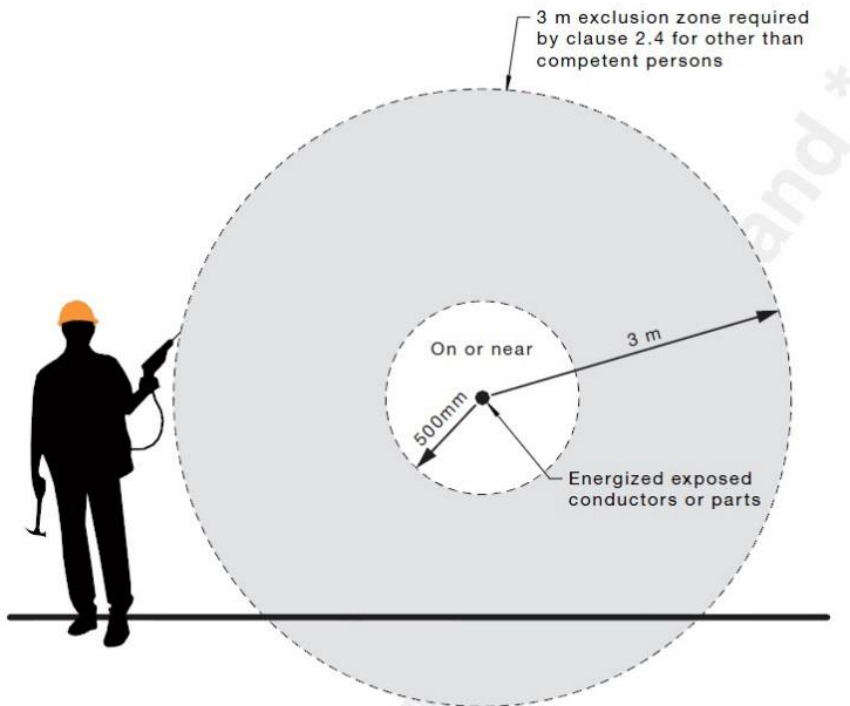

FIGURE 2.1 ILLUSTRATION OF 3 M EXCLUSION ZONE AND 'ON OR NEAR'
*See figure 2.1 below from AS/NZS4836:2011. *"On or near" is defined as within 500mm of the energized exposed conductors or parts